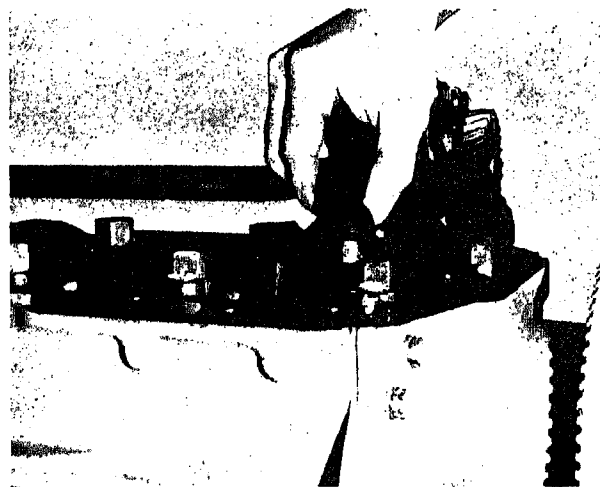

Fig. 14-1-53. Installing oil pump and suction tube
3. Position oil pump, suction tube and hanger straps to block Fig. 14-1-53; install mounting capscrews and lockplates; tighten oil pump capscrews securely and lock lockplates.